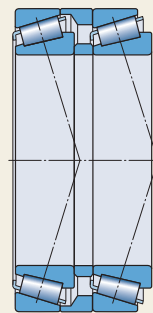

Fig. 13
SKF manufactures double row tapered roller bearings in the TDO (fig. 13) and TDI (fig. 14) designs, in many variants and with different features.
- have one double row outer ring (double cup) and two inner rings with roller and cage assemblies (cones), usually with an intermediate ring between the two inner rings (fig. 13)